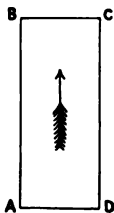

Fig. 67.
14. Four boys pass ball upon the deck of a steadily moving steamer, the wind moving in the direction of the arrow (Fig. 67), with the same velocity and in the same direction as the steamer. They pass the ball around the parallelogram in the order of the letters. Must any of them allow for the motion of the steamer in throwing the ball ? Why or why not ?